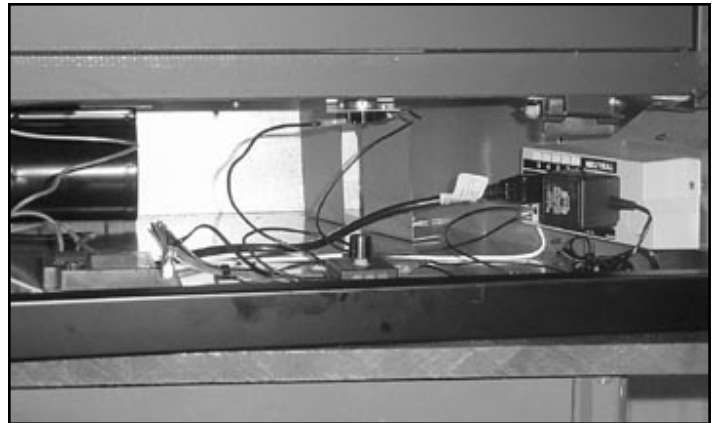

Figure 10 Final View - Installation Complete
- Make sure the fan and wires are plugged into the junction box correctly as shown in Figure 10.